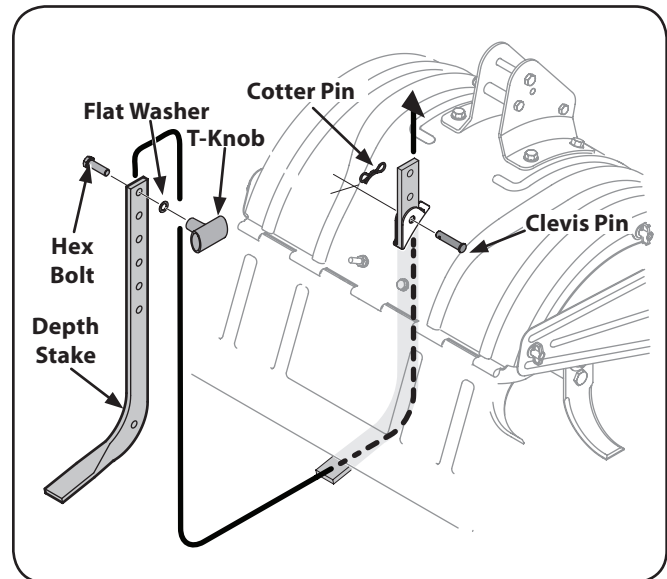

Figure 3-1
2. Unthread the T-knob from the top of the depth stake and remove the flat washer and hex bolt. Remove the cotter pin from the clevis pin. See Figure 3-1.
5. Insert the hex bolt into the top hole of the depth stake assembly. Place the flat washer on the hex bolt and thread the T-knob onto the hex bolt. Tighten securely. See Figure 3-1.